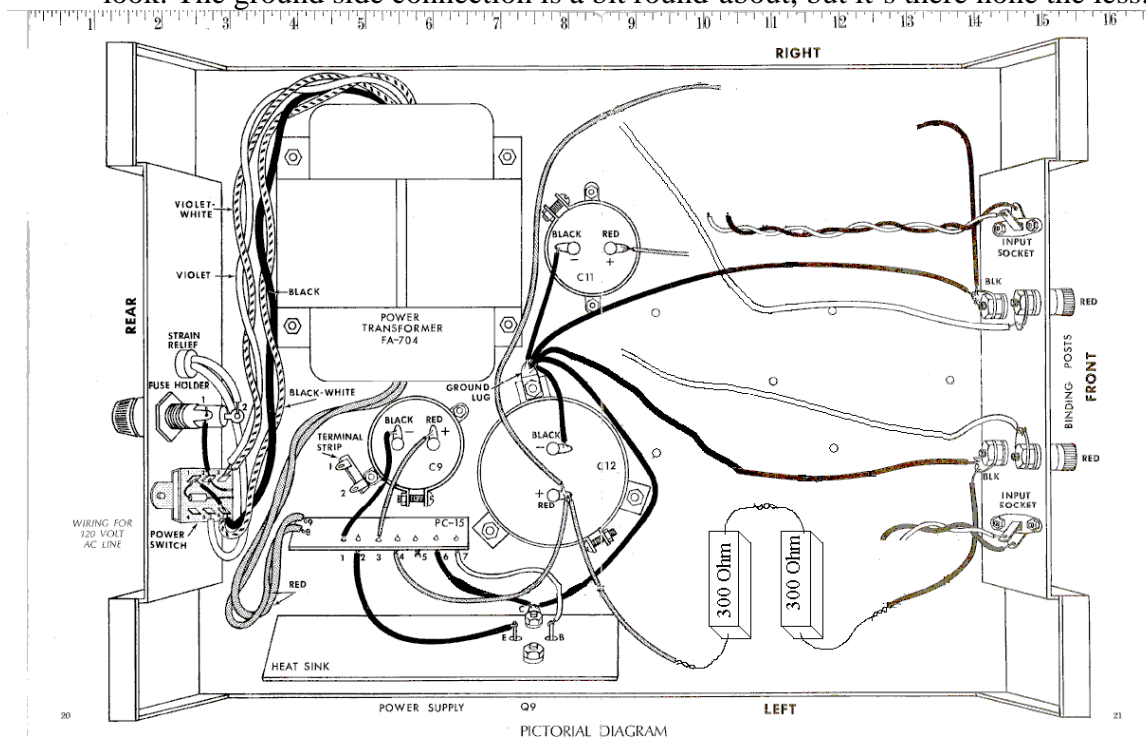

Figure 6-Connecting a test load to the power supply
3. Connect the series resistors across C12. Figure 6 shows how the test circuit will look. The ground side connection is a bit round-about, but it's there none the less.